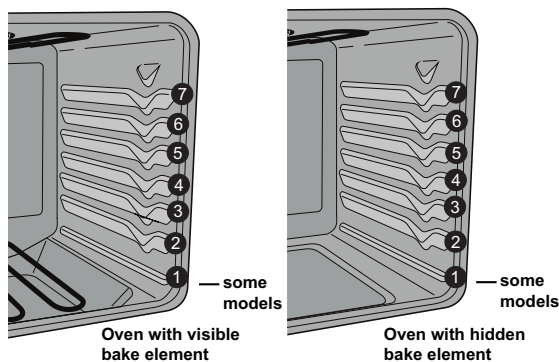

Figure 15: Rack positions for visible bake and hidden bake elements
- For best results when baking cakes using two oven racks, place racks in positions 3 and 5 (See Figure 15).